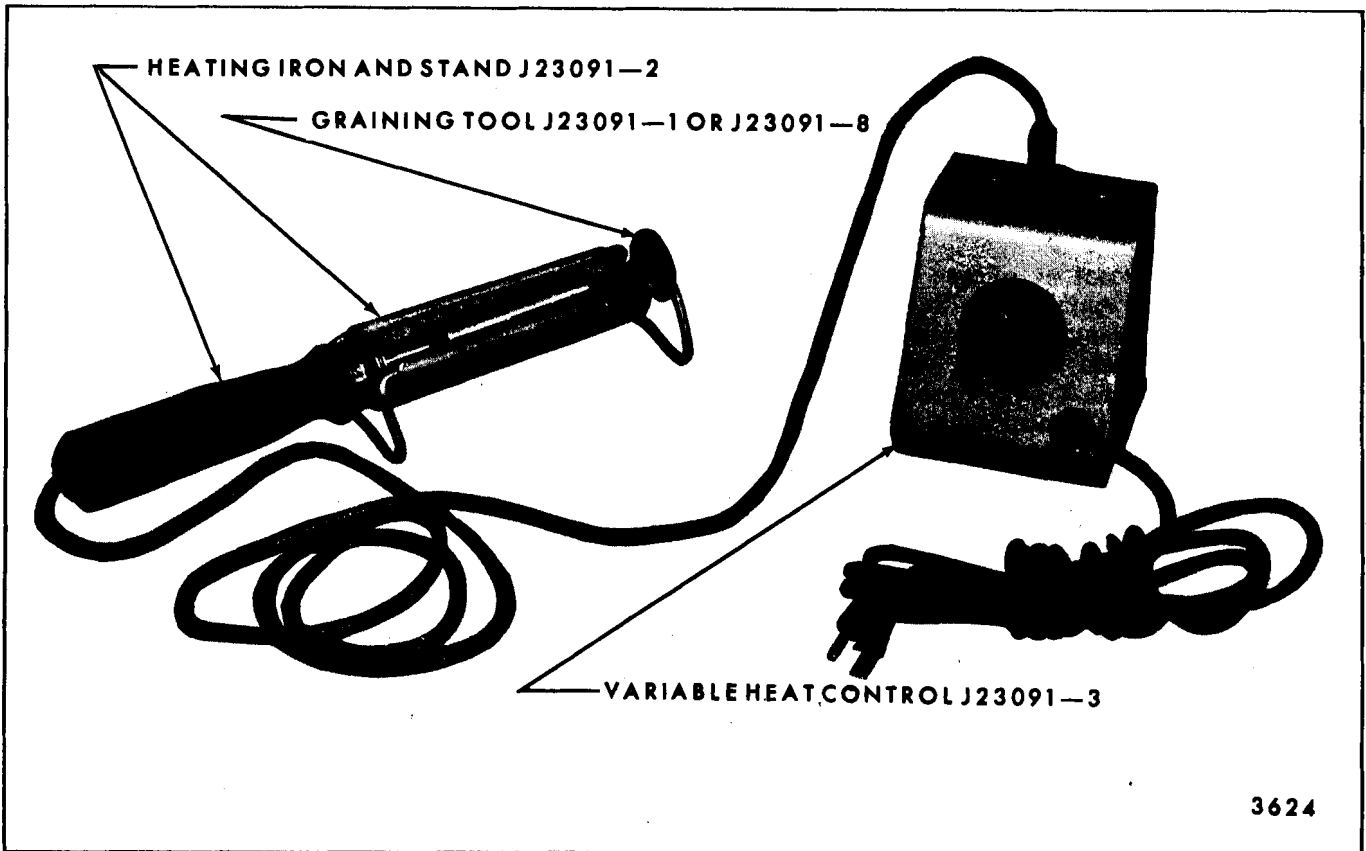

Fig. 11-13-Fabric Roof Cover Repair Tool
1. Repair utilizing a teflon coated metal graining tool, heating iron, and a variable heat control unit, Fig. 11-13.
- a. Kit J-23091 (or equivalent) includes graining tool J-23091-1 (or equivalent), heating iron and stand tool J-23091-2 (or equivalent) and variable heat control tool J-23091-3 (or equivalent) and is applicable for 1971 and prior model year fabric roof cover material (Fig. 11-13).